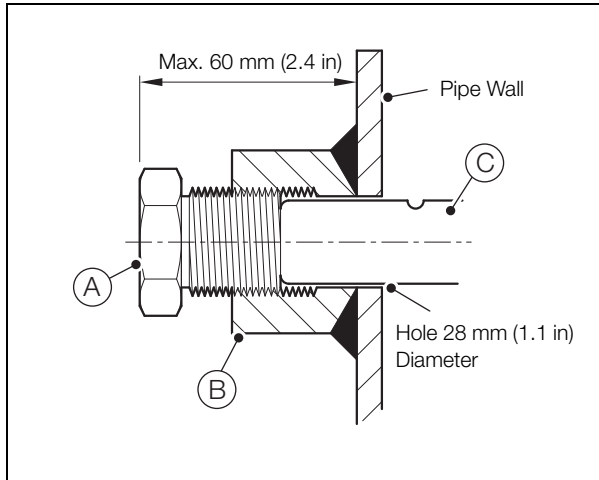

Fig. 2.8 Model 402 Support Plug
11. Referring to Fig. 2.8, screw support plug (A) into threaded fitting (B) and tighten, ensuring that:
- a. support plug (A) contacts the Torbar (C)
- b. the distance between the head of support plug (A) and the pipe wall does not exceed 60 mm (2.4 in).